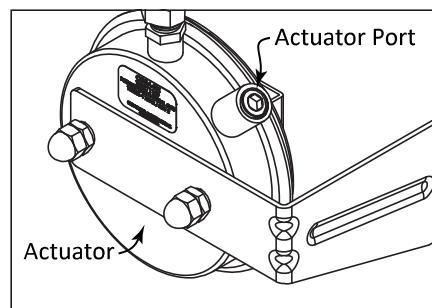

Figure 42 - Actuator
- 1** Manifold/burner pressure can be measured at the actuator port (See Figure 42).